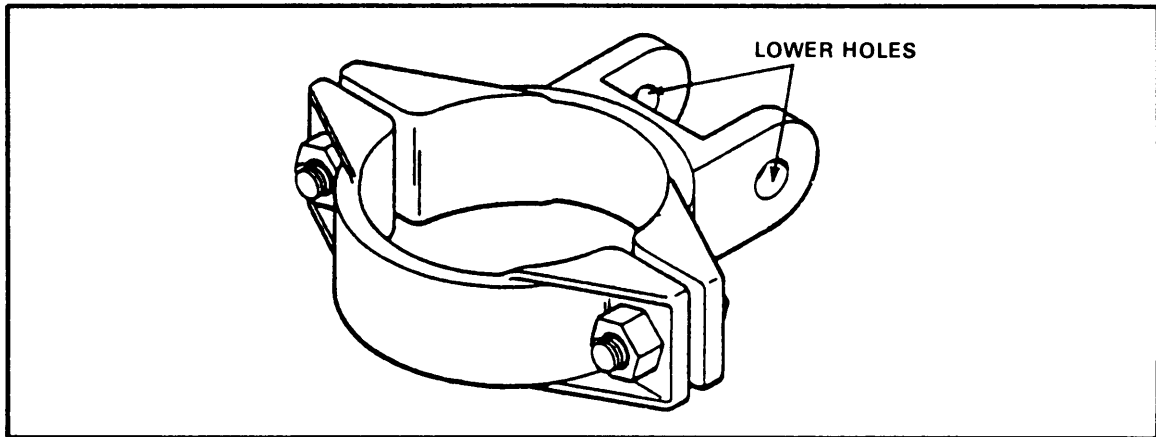

Figure 3-17. Travel lock bracket.
(4) Travel lock bracket. This bracket allows the travel lock adapter to be used with the M4 pedestal mount. It has two halves that are secured around the pedestal with nuts and bolts. The bracket is attached to the travel lock adapter by aligning their lower holes (Figure 3-17).